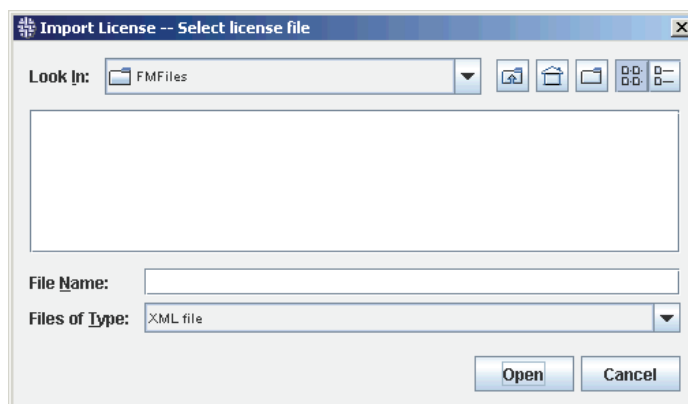

Figure 11-12 Importing a License
The Import License -- Select license file window displays (see Figure 11-12).
2. Navigate to your license key file (not displayed in Figure 11-12), select it, and click **Open**.